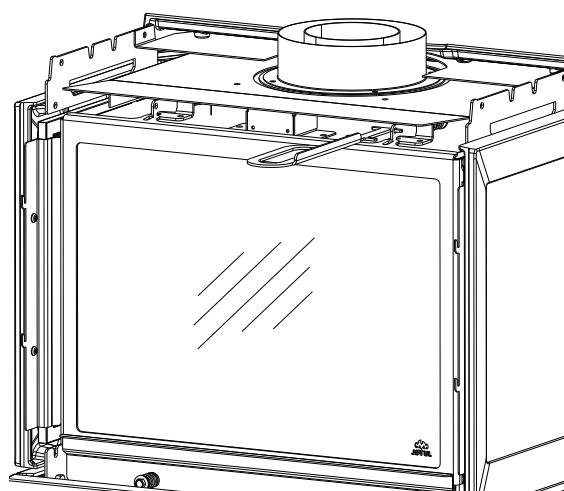

Figure 2.2
- Remove the Latch Tool from the shipping pallet and use it to remove the Glass Panel by pulling the two latch hooks out to disengage them from the glass frame. Fig. 2.2.